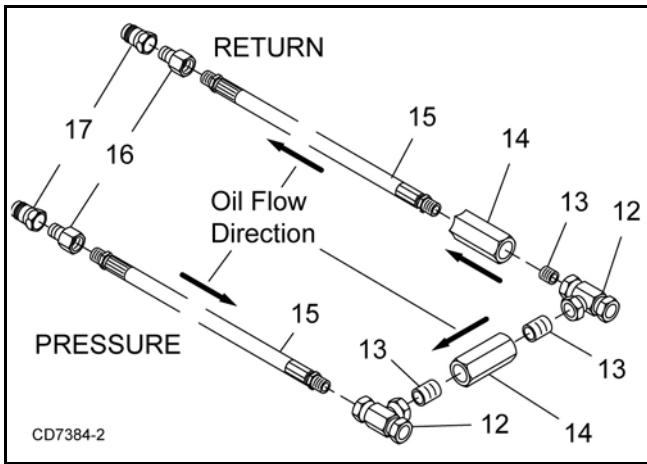

Figure 60. Hose Assembly
1. Attach male quick coupler (17) and adapter (16) to the end of hose (15). Attach tee (12) to the opposite end of hose.
2. Attach male quick coupler (17) and adapter (16) to the end of second hose (15). Attach check valve (14), nipple (13) and tee (12) to the opposite end of hose.
NOTE: Make sure flow indicator arrow on the side of the check valve (14) is pointing in the correct direction. See Figure 60
3. Install check valve (14) and two nipples (13) between the two tees (12).
4. Place hose assembly around center plate of shredder and drape quick couplers over the front of the shredder. See Figure 60 and Figure 61.